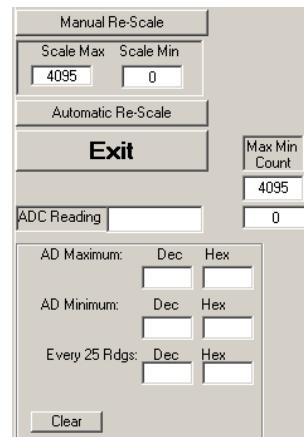

FIGURE 19. SINGLE DATA VIEW WINDOW
- The value in the "ADC Reading" and/or "Lux Reading" fields are the appropriate output coming out of the sensor according to which Mode is engaged (Figure 19).